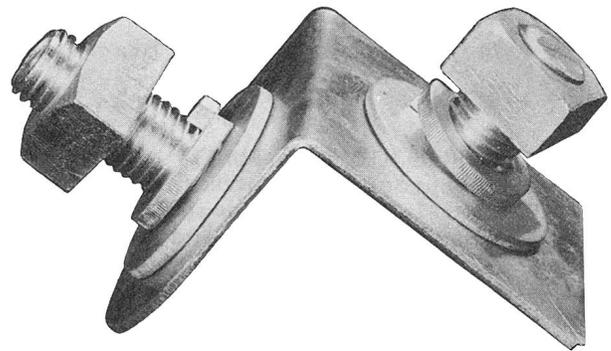

Figure 73 - GB-1037 Mounting Bracket
4.21 The GB-1037 mounting bracket is an L shaped 1/8" thick metal bracket. It is 3" wide and each leg is 3" long. It has a 3/4" NC machine screw in the center of each leg and comes with lockwashers and nuts. This bracket permits mounting the KS-14705 horn (31-A) for complete vertical or horizontal adjustment. (Figure 73)